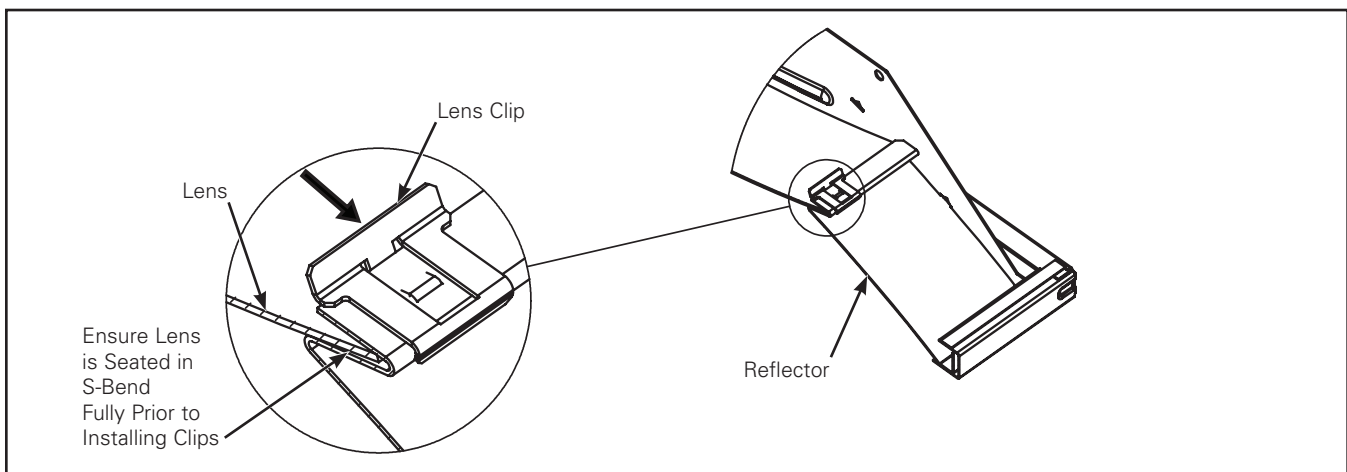

Figure 5. & 6. Section view
2. Push clip until the flange snaps in position with lens as shown in Figures 5 & 6. Clips should be positioned within 2" of end plates.